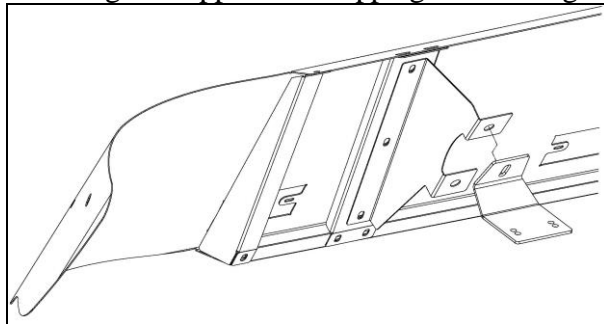

**Figure 4: Inside console center brackets**
12. Working from inside the cab, begin installation of the interior brackets, starting at the center and then the outsides. Start by threading the nut onto the bottom center visor bracket bolt a few turns. Next, slide the "U" slotted bracket under the nut and tighten. Drill required Ø1/4" mounting holes into console and install supplied hardware. Attach top bracket picking up on existing console holes. Refer to Figure 4 for proper bracket orientation.